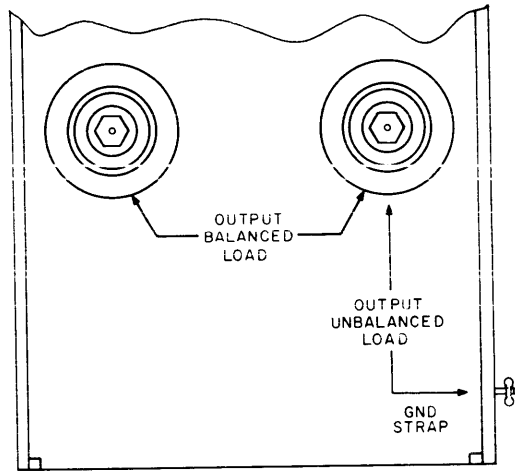

Figure 2-6. Rear Panel Connections, TAC-1
i. An open wire transmission line or single wire may be attached to the designated terminals on the rear of the TAC-1. See figure 2-6 for proper connections.